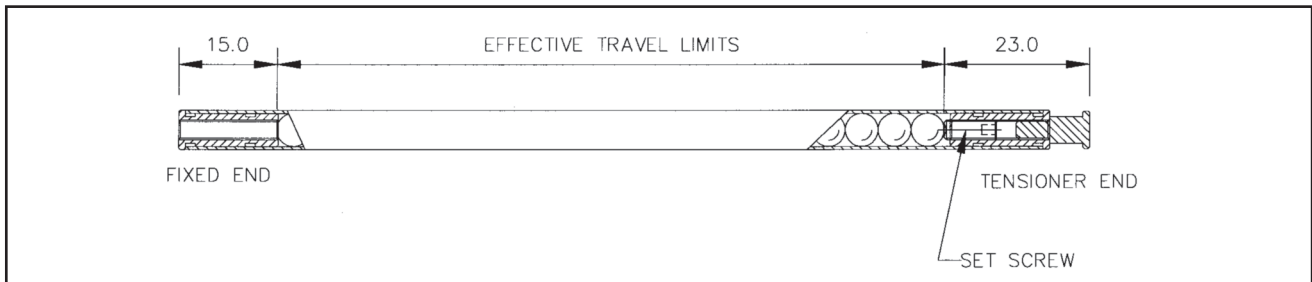

Figure 6.7 - The DMG Scale
- (A) Erroneous readings will occur if the DMG reader head is allowed to travel beyond effective travel limits. (Refer to Figure 6.7)
- (B) The pre-load on the balls are factory set via the set screw at the tensioner end. Do not tamper with or adjust the set screw as this will alter the calibration and accuracy specification of the scale and void the warranty.